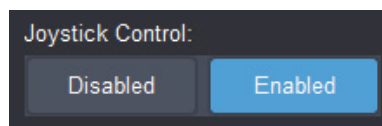

Figure 6 - Disabled and Enabled Buttons for manual and joystick control
1. Tap the **Enabled** button (see Figure 6).